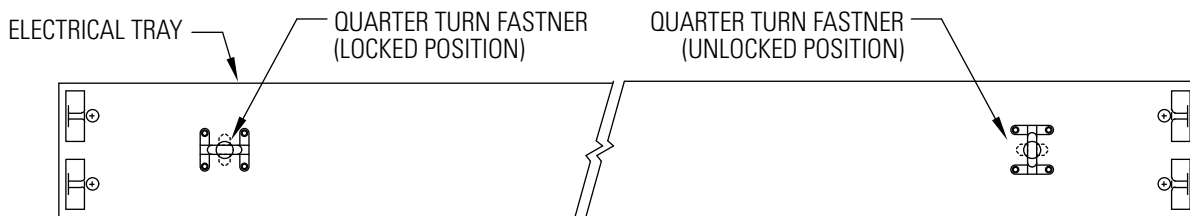

Figure 5
- B. Then proceed to install the ELECTRICAL TRAYS and fasten securely by means of (2) QUARTER TURN FASTENERS which rotate to lock in place. (Fig. 5 & Pg. 1 cross sections)